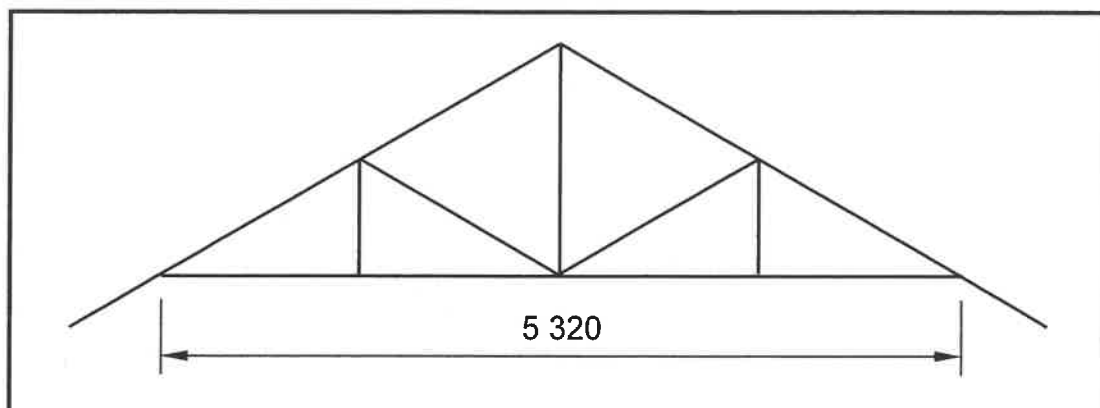

FIGURE 3.2
3.2 FIGURE 3.2 below shows a line diagram of a South African (Howe) roof truss.